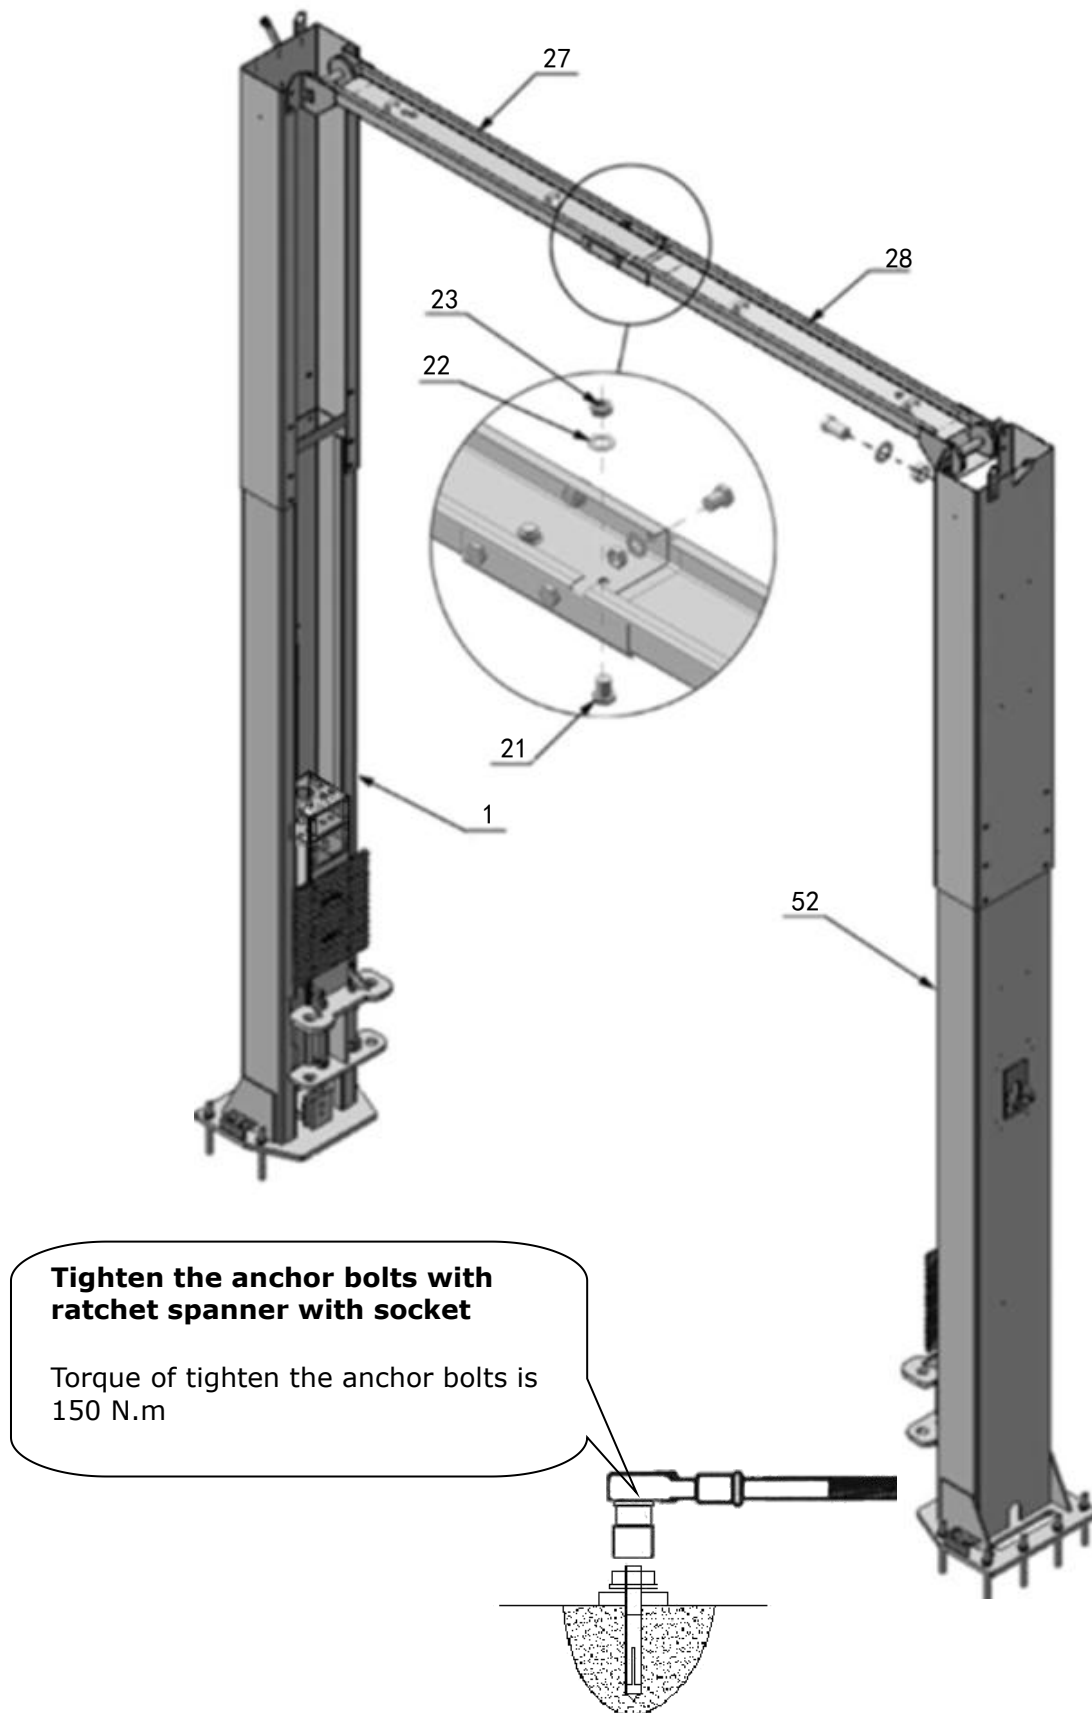

Fig.22
2. Assemble overhead top beam, tighten the columns anchor bolts (**See Fig. 22**).